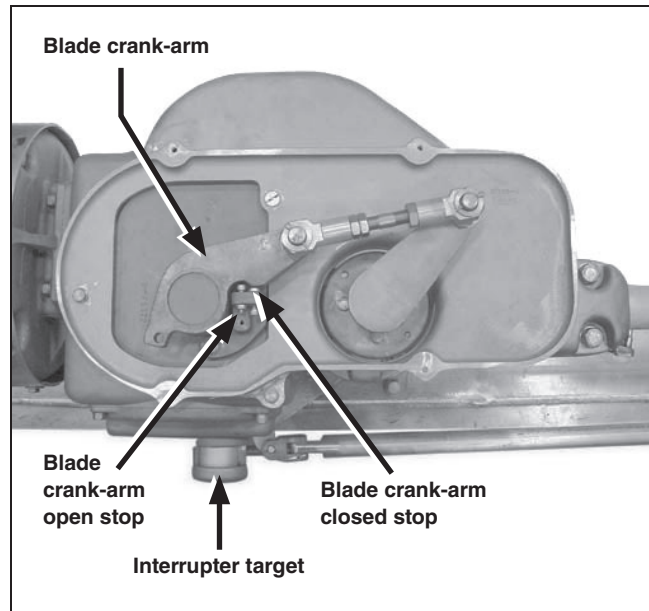

Figure 19. Brain linkage detail. Linkage cover removed for visibility. Do not remove linkage cover.
In each position (fully **Open** and fully **Closed**) examine the blade crank-arm at the top of the brain to verify it rests against its respective stop. See Figure 19 on page 22. Do not attempt to adjust these stops. The stops are factory-set to provide the travel necessary to achieve full latching of the brain as well as tripping simultaneity. The blade crank-arm may be viewed through the window in the top of the linkage cover.
- (a) Loosen the cap screws that fasten the interrupter at the terminal end and, with the power train held securely against the drive-shaft crank stop, move the interrupter sideways (within the confines of the mounting holes) until the blade crank-arm stop makes firm contact with the blade crank-arm. See Figure 19.